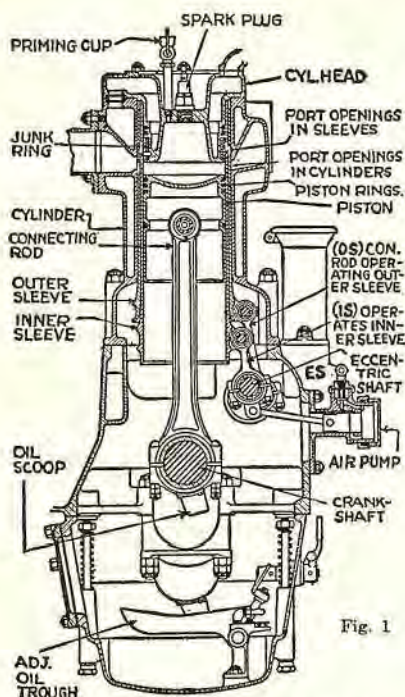

Fig. 1
The sleeve valves: Instead of raising and lowering the poppet valves, to admit and expel the gas, there are two sleeves with ports or slots in them. At certain times, these ports on the same side of the cylinder come in line, as shown in Figs. 1 and 1A and Figs. A to F. These sleeves take the place of valves.
Eccentric shaft: The sleeves are caused to slide up and down by an eccentric shaft (ES), which takes the place of a cam shaft, and which has eccentrics raising and lowering small connecting rods (OS and IS, Figs. 1 and A to F). This eccentric shaft is driven by a chain from a sprocket on the crank shaft of the engine. It